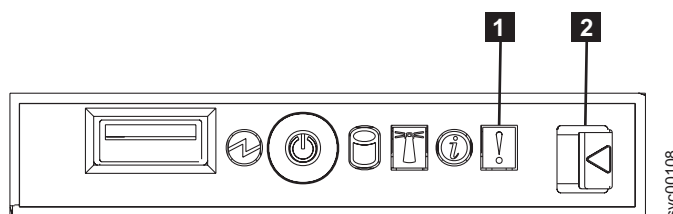

Figure 55. SAN Volume Controller 2145-8F2 or SAN Volume Controller 2145-8F4 operator information panel
1. **Is the Error LED on the SAN Volume Controller 2145-8F2 or SAN Volume Controller 2145-8F4 operator panel illuminated or flashing?** See Figure 55.